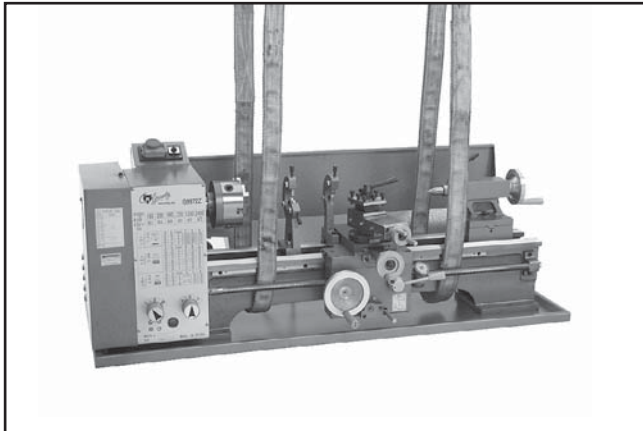

Figure 6. Lifting strap positions.
4. Wrap the lifting straps around the bed and between the leadscrew and the bedway, as shown in **Figure 6**.